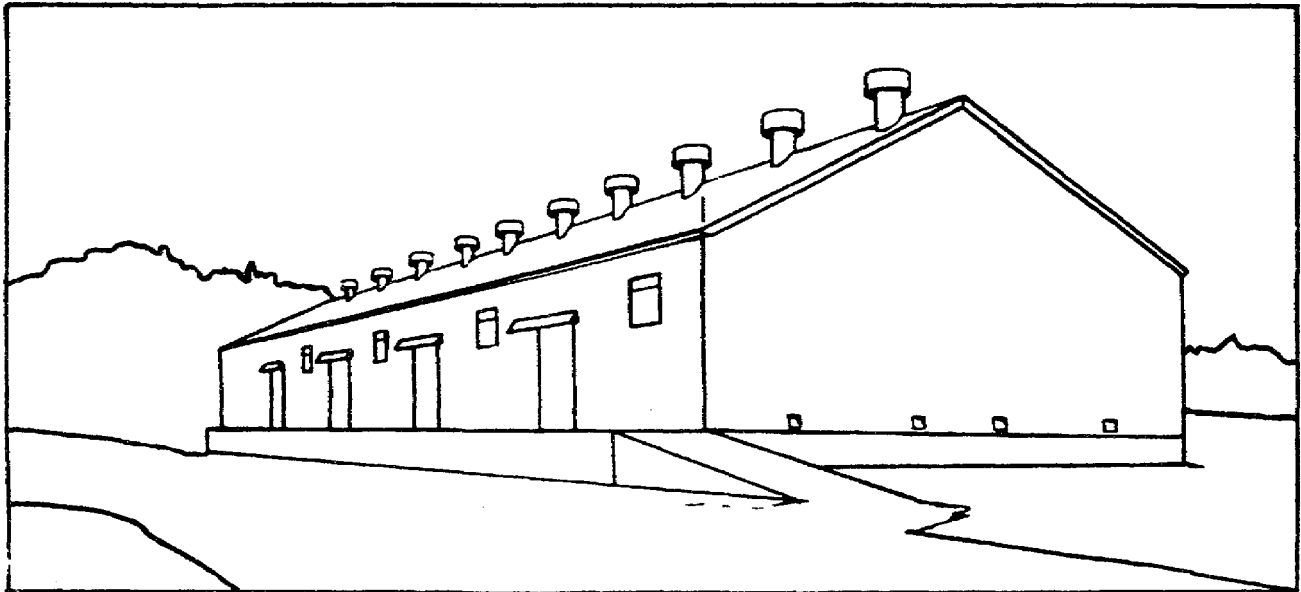

Figure 2-3. Standard Above-ground Magazine.
**Above-ground Magazines.** Standard above-ground magazines (Figure 2-3) are made with steel and concrete frames and have hollow tile walls filled with sand. Their concrete floors are sometimes covered with a sparkproof surface. Designed to store 155mm and 8-inch separate loading projectiles, they usually have small arms ammunition, firing devices, and other less explosive or less hazardous items stored in them. The largest above-ground magazines are about 51 feet wide by 218 feet long.